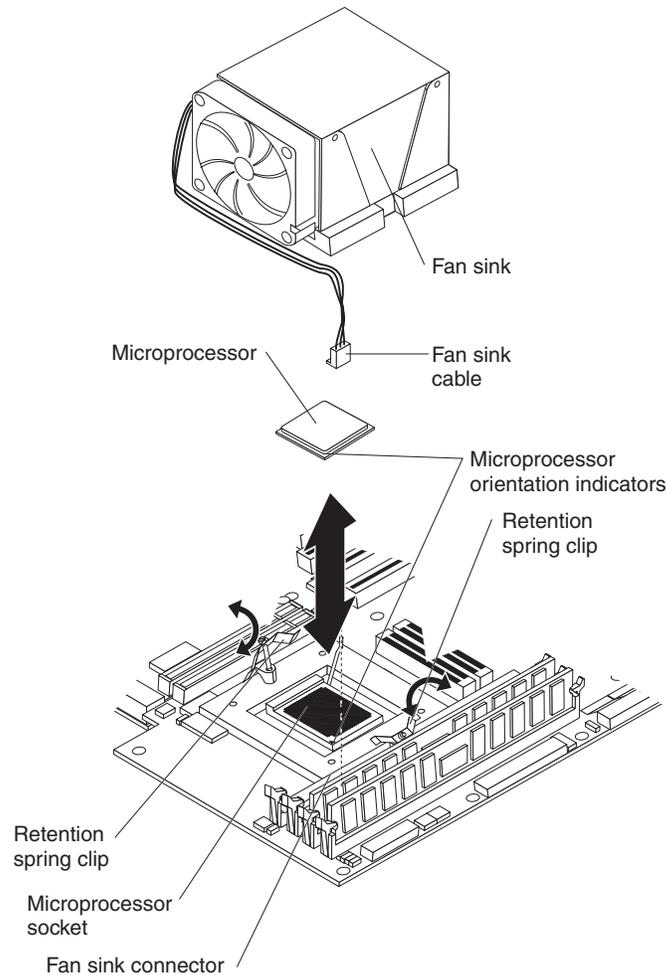

Figure 26. Installing microprocessor 1 and fan sink
- b. Position the microprocessor over the microprocessor socket as shown in Figure 26 on page 113. Carefully press the microprocessor into the socket.
4. Install the fan sink (see Figure 26).
- e. Press the fan sink into place; then, connect the fan-sink cable to the microprocessor fan connector on the board (see Figure 26).